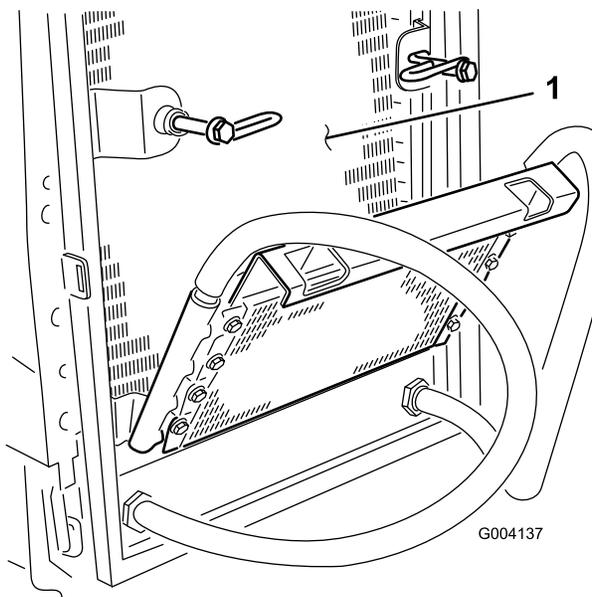

Figure 62
6. Thoroughly clean both sides of the oil cooler and the radiator (Figure 62) with compressed air.